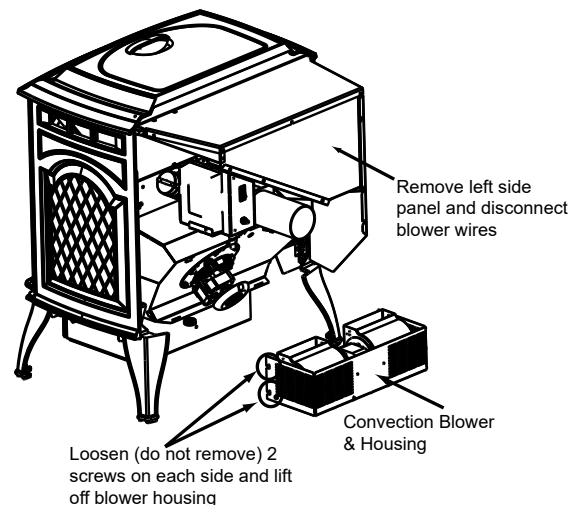

Figure 25.3
- There are 2 screws on each side of the housing. Loosen all 4 screws, but do not remove them. Lift the blower housing up slightly and slide towards you (**Figure 25.3**).